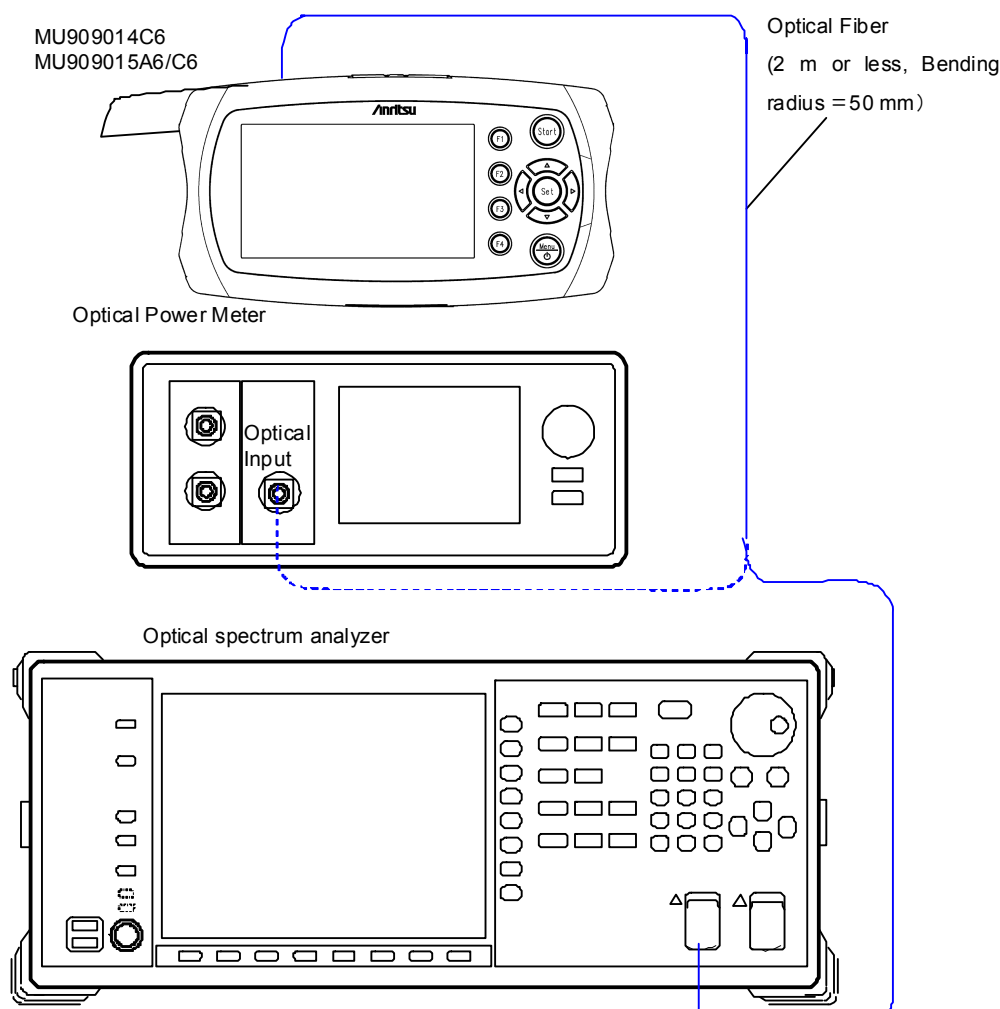

Figure 11.1.9-1 Light Source Test Connection Diagram
1. Connect the devices as shown in Figure 11.1.9-1.
10. Connect the light source output of the unit to the optical power meter as shown in Figure 11.1.9-1.